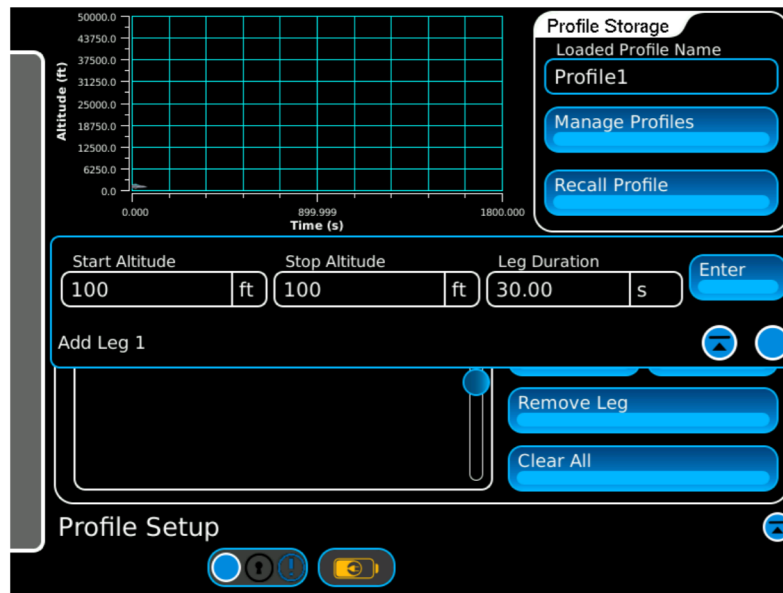

Figure 4-2 Profile Setup
10. Press the **Enter** button to add Leg 1 to the profile. See Figures 4-2 and 4-3.
15. Press the **Enter** button to add leg to the profile. See Figures 4-2 and 4-3.
20. Press the **Enter** button to add leg to the profile. See Figures 4-2 and 4-3.
25. Press the **Enter** button to add leg to the profile. See Figures 4-2 and 4-3.
30. Press the **Enter** button to add leg to the profile. See Figures 4-2 and 4-3.
35. Press the **Enter** button to add leg to the profile. See Figures 4-2 and 4-3.